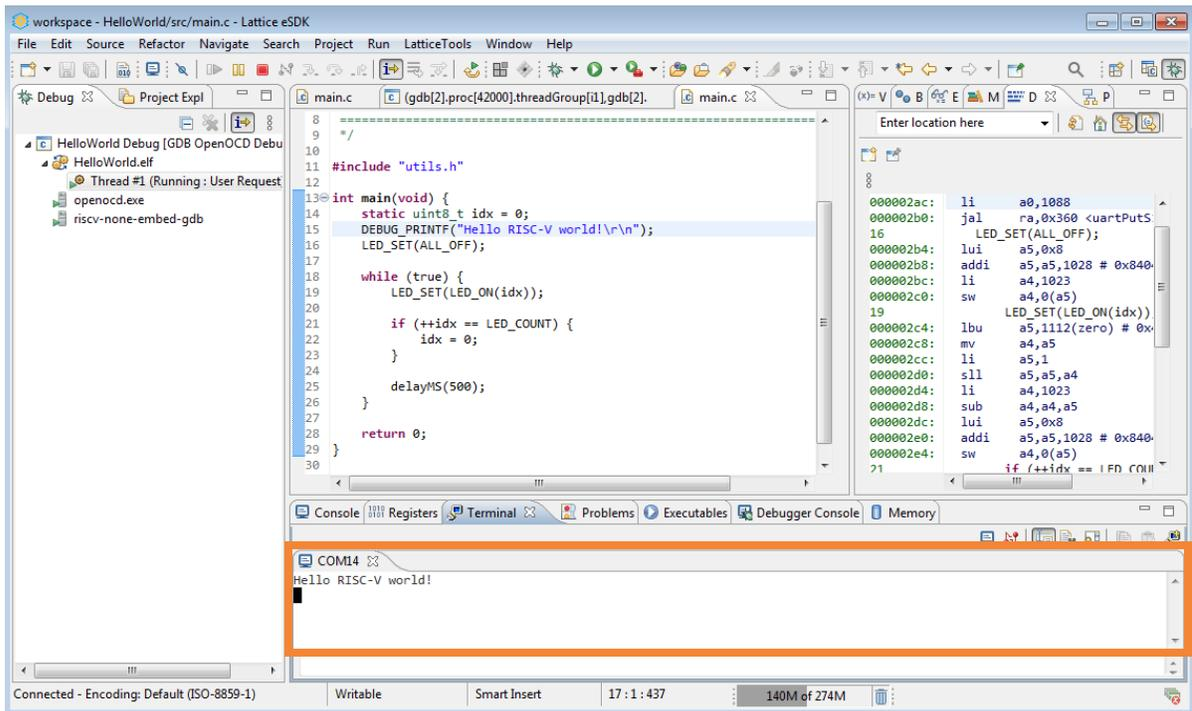

Figure 4.11. Run Result of Hello World Project
- Click the Resume icon  on the toolbar. The serial terminal outputs “Hello RISC-V world!” (Figure 4.11).